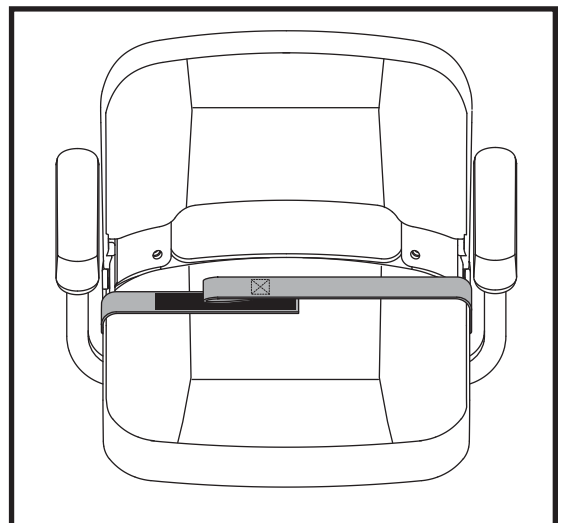

Figure 29. Positioning Belt - Reusable Hook and Loop Fastener Style
1. Align the two sides of the belt placing the looped-end side directly above the coarser side (“hook”) of the opposite belt. Press firmly together to fasten. See figure 29.